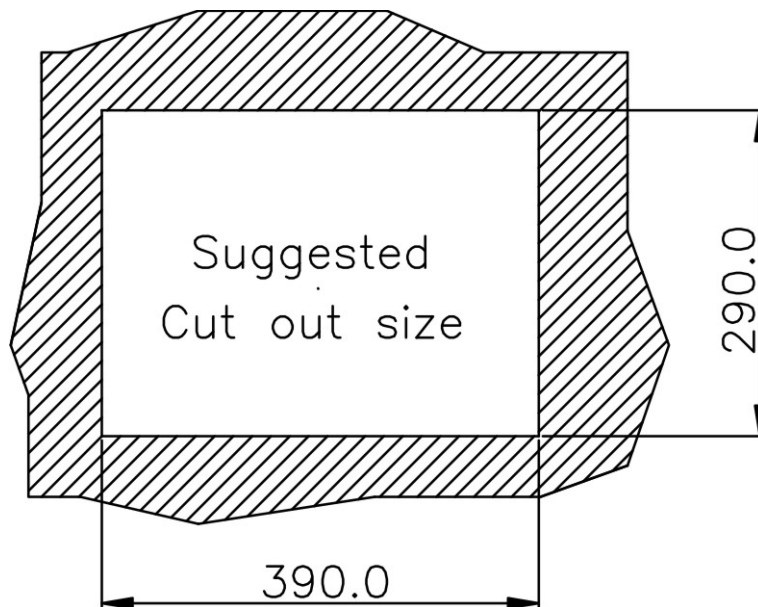

Figure 3-17: Suggested Panel Cut Out Size for PPC-5152-D525 (Unit: mm)
- Step 2:** Cut out a section from the panel that corresponds to the dimensions of the flat panel PC chassis. The panel section that is cut out must be smaller than the size of the aluminum frame that surrounds the TFT LCD panel but just large enough for the chassis to fit through. Refer to **Figure 3-17** for the suggested cut out size.